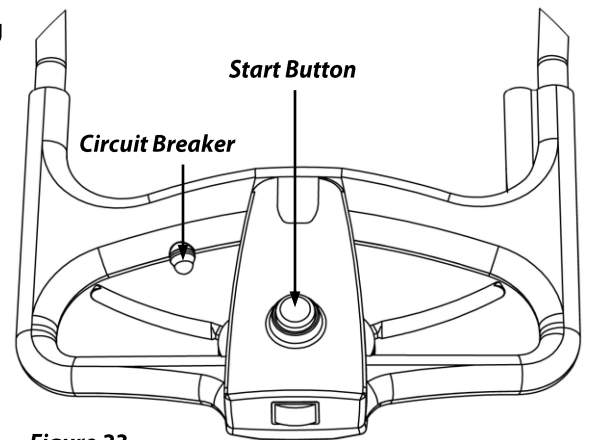

Figure 23
1. Depress the orange Start Button (**Figure 23**).
- Make sure the black Circuit Breaker Button on the Handlebar is depressed (**Figure 23**).
- Did you follow the two (2)-step Start sequence: depress the orange Start Button, then squeeze and hold the Control Lever(s)?